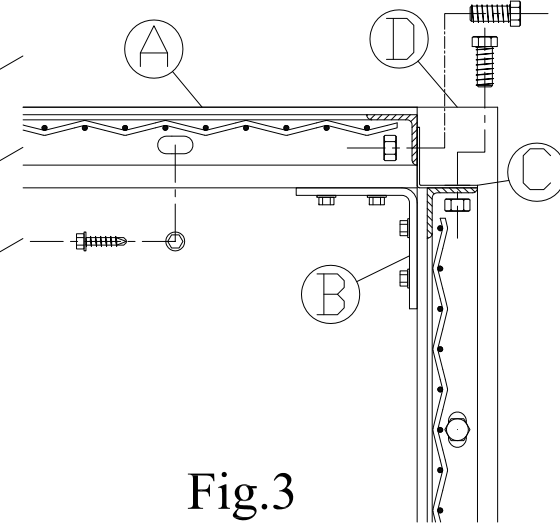

Fig. 3
5. Install slotted angle (C) on top of wall panels per instruction page 19.
7. Use self drilling screws to attach panels to horizontal ceiling tubes Fig. 3.
8. Lift panels into place, face side up, and attach to slotted angle (C) with 3/8" x 1" bolts (see Fig.3 page 20).